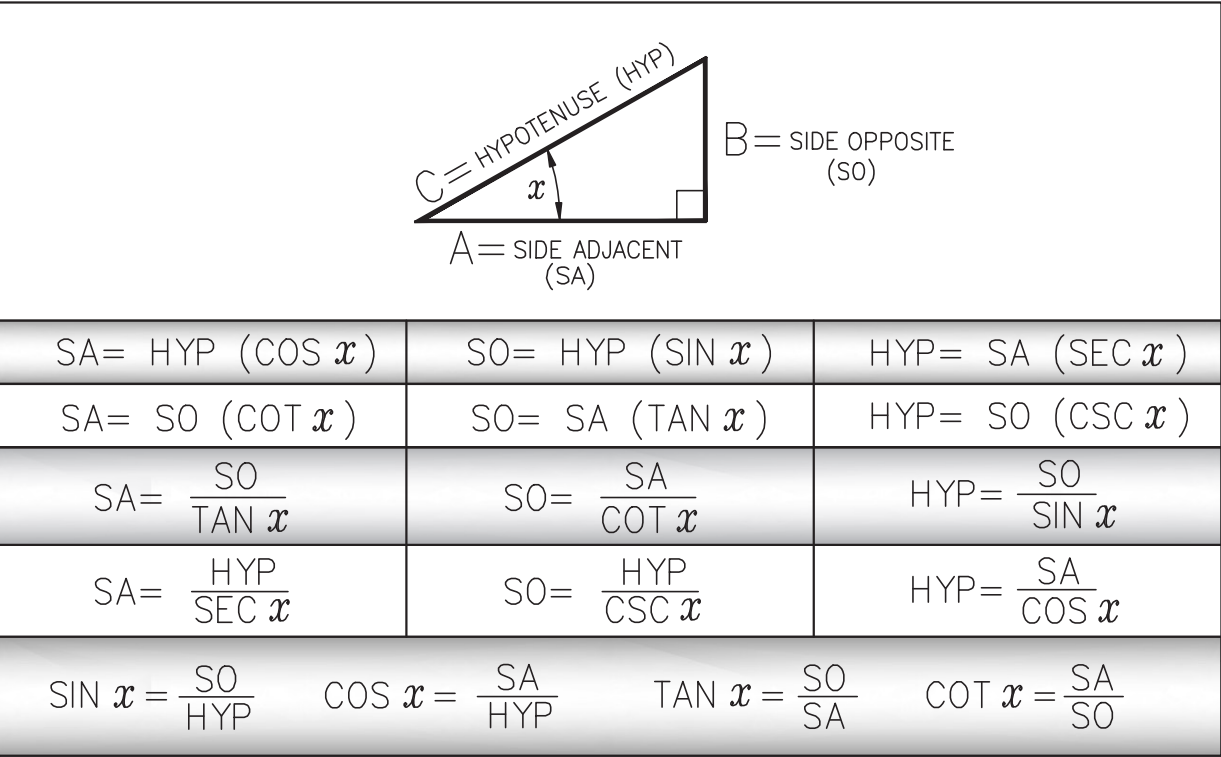

FIGURE 13.20 Right-triangle formulas.
As mentioned previously, 90° elbows can be rolled to form any degree of angular offset. To fabricate such a roll, a pipe fitter should be provided with the lengths of the three sides of the triangle and the degree value of angle X . Solving for an unknown value of X requires some additional trigonometric formulas. Use the formulas provided in Figure 13.20 to solve for the unknown value of angle X . Notice that, relative to X , side A is identified as the Side Adjacent (SA), side B is identified as the Side Opposite (SO), and side C is identified as the Hypotenuse (HYP).